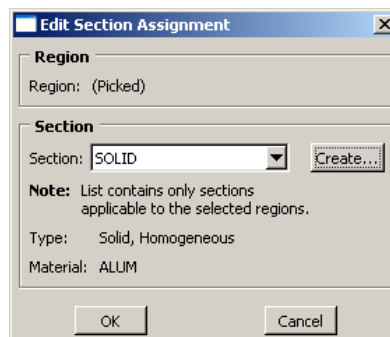

Figure 11. Edit Section Assignment Dialog Box (SOLID)
- The **Edit Section Assignment** dialog box will appear (Figure 11). Because only one section has been created, the dropdown menu defaults to the **SOLID** section. If multiple sections had been created, the dropdown menu could be used to assign different sections to different parts of the geometry.